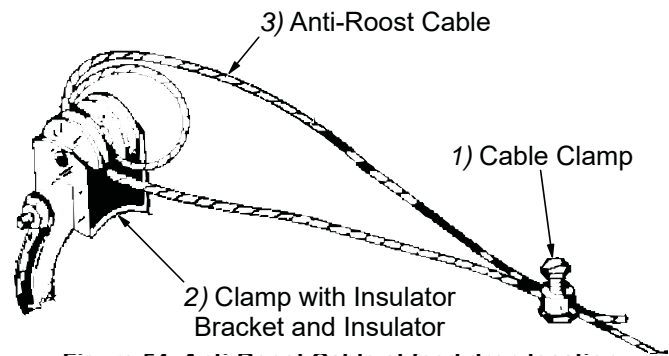

Figure 54. Anti-Roost Cable at feed drop location
2. Start at the feeder boot end of the line and form a loop around the anti-roost bracket. For best results, make a double loop around the anti-roost insulator in the center groove of the insulator and fasten with a 1/16" cable clamp, see **Figure 54**.